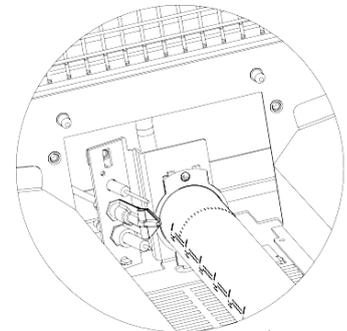

Figure 9
3.3.4 Oven Burner - To Replace Injector (from front of oven Refer to Figure 9)